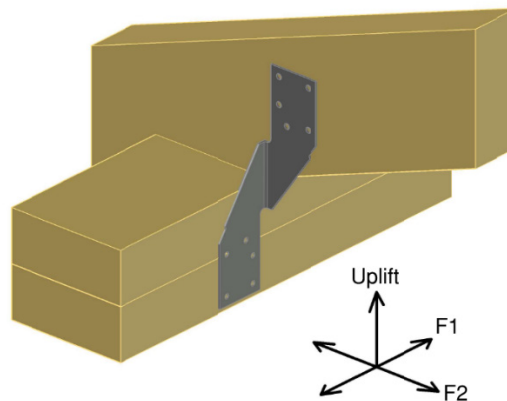

Figure 1. Tie Clip Load Orientations
- CH01 and CH01-02 must be installed in pairs to achieve tabulated F1 and F2 loads. See Figure 1 for more detail.
- CH02 must be installed in two pairs (four (4) connectors total) to achieve tabulated F1 and F2 loads. See Figure 1 for more detail.